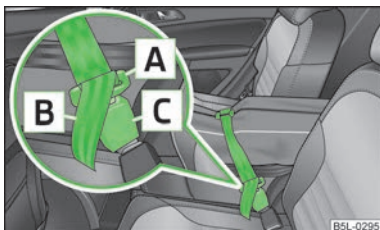

Fig. 85
- Insert the lock tongues **A** » Fig. 85 in the belt locks of the rear middle seat belt **C**, first of all on the one side and then on the other side.